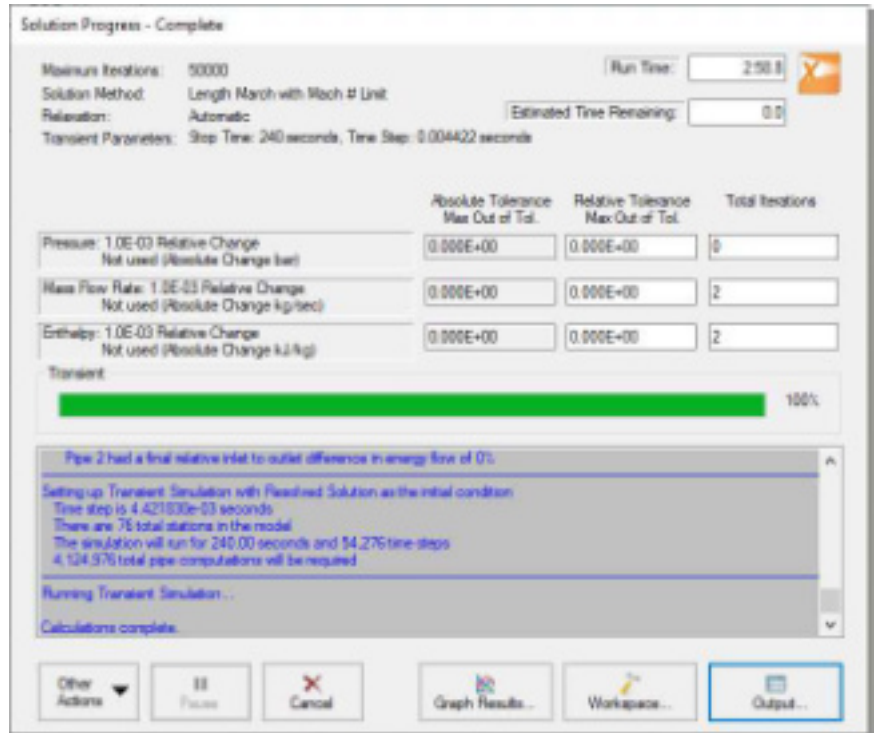

Figure 2.18 The Solution Progress window displays the state of the simulation
- **Choose Run Model... from the Analysis menu** or click the Run Model button on the Common Toolbar. During execution, the Solution Progress window is displayed and can be used to pause or cancel the Solver's activity (Figure 2.18).